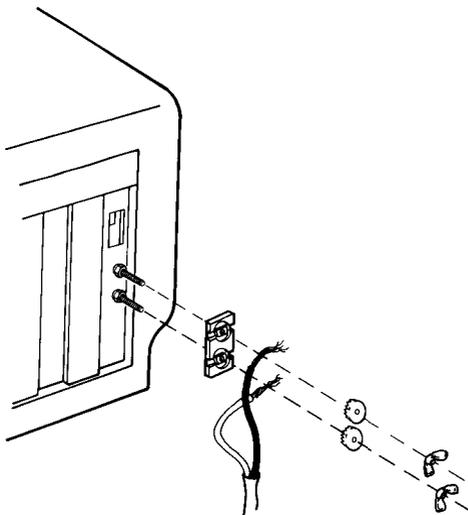

Figure 5.
12. Slide the terminal block over the 2 screws that protrude from the back of the computer, with the flat side of the block with 2 round indentations facing to the outside. See Figure 5.